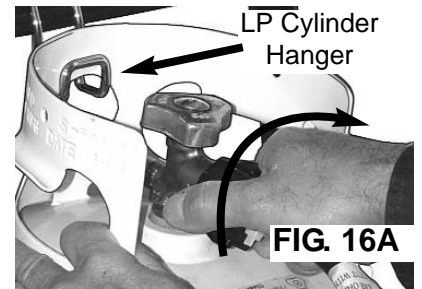

FIG. 16A
**STEP 3B. (20 lb Cylinder)** Hook the 20 lb. Cylinder upright to the hanger on the right side. Connect end of hose to Cylinder valve by turning counter-clockwise and hand tighten. (FIG.16A)